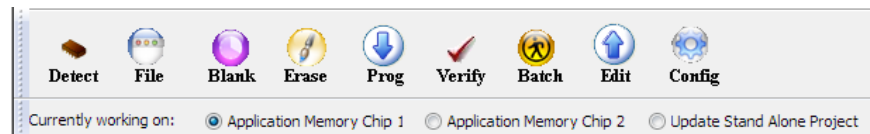
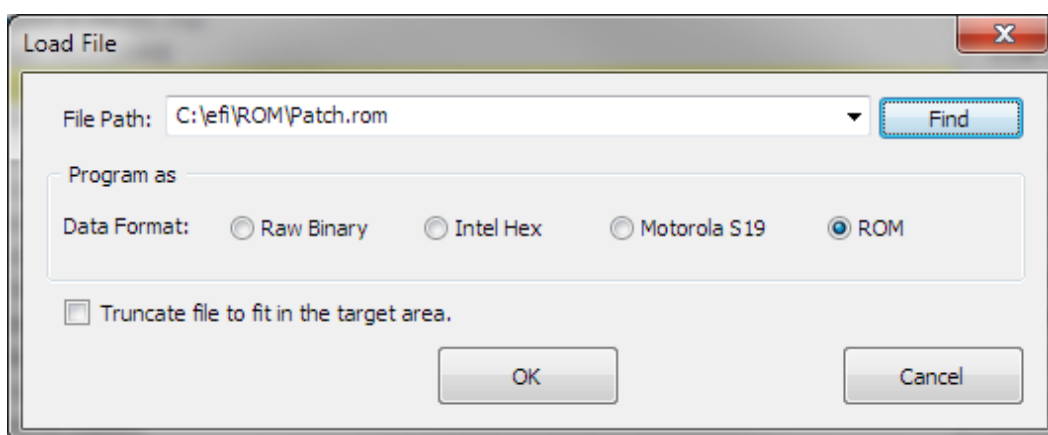

Figure 3-17. Click the File icon.
Figure 3-18. Load File dialog box. (In this example, the last file loaded was patch.rom.)
1. On the host system, in the DediProg application, click the **File** icon in the top menu bar (see Figure 3-17). A dialog box will open (see Figure 3-18).